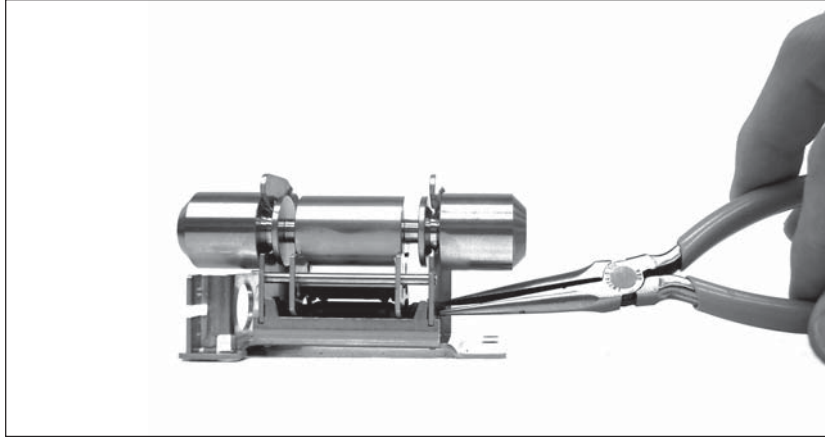

Figure 3-26. Checking Shaft Rotation on InCal Mechanism.
1. Refer to Figure 3-26 and gently rotate the InCal Mechanism to lower the InCal Weight and rotate in the opposite direction to raise the InCal Weight. If the operation is not smooth, replace the entire InCal Mechanism.
3. See Figure 3-26. Rotate shaft until weight is lowered, then remove the weight.